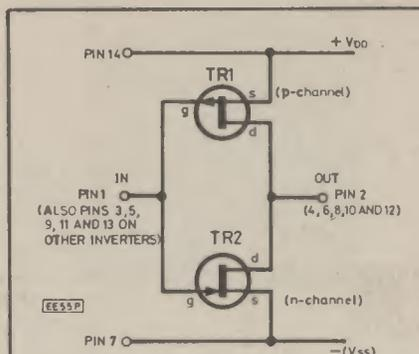

Fig. 10.3. CMOS inverter as contained in the 4069UB i.c. (Numbers refer to 4069 pins.)
Some of these families (TTL, ECL, and so on) are designed round bipolar transistors; others (CMOS, NMOS) round field-effect transistors. It so happens that CMOS (pronounced like "sea moss") lends itself well to the sort of uses we are concerned with, so let's take a look at a CMOS inverter (Fig. 10.3).
Note that in Fig. 10.3 TR1 and TR2 are drawn as discrete f.e.t.s, that is, with enclosing circles. This is to help identification and comparison of these devices with the ordinary transistor symbol. In
actual fact we shall be using f.e.t. transistors that are elements within an integrated circuit, and such elements are normally drawn without any enclosing circle. The pin numbers given in Fig. 10.3 relate to the i.c. type 4069UB.
You can buy a CMOS i.c. which contains six inverters, like the one in Fig. 10.3, for a few tens of pence. It's the hextuple ("hex") inverter type 4069. Letters may be added; for example, HEF4069UB. The "front" letters are the manufacturer's code. "UB" at the end (or sometimes "A") means that the circuit is "unbuffered". This means that the inverter is not followed, inside the i.c., by an extra amplifier.
Many CMOS circuits are buffered (B). This means that there is a buffer amplifier to prevent the inverter from being affected much by its load. A buffered CMOS inverter has three circuits like Fig. 10.3 in each of its six inverters. Three stages are needed because two would invert twice and turn the inverter into a non-inverter. The third inverts again and restores the status quo.